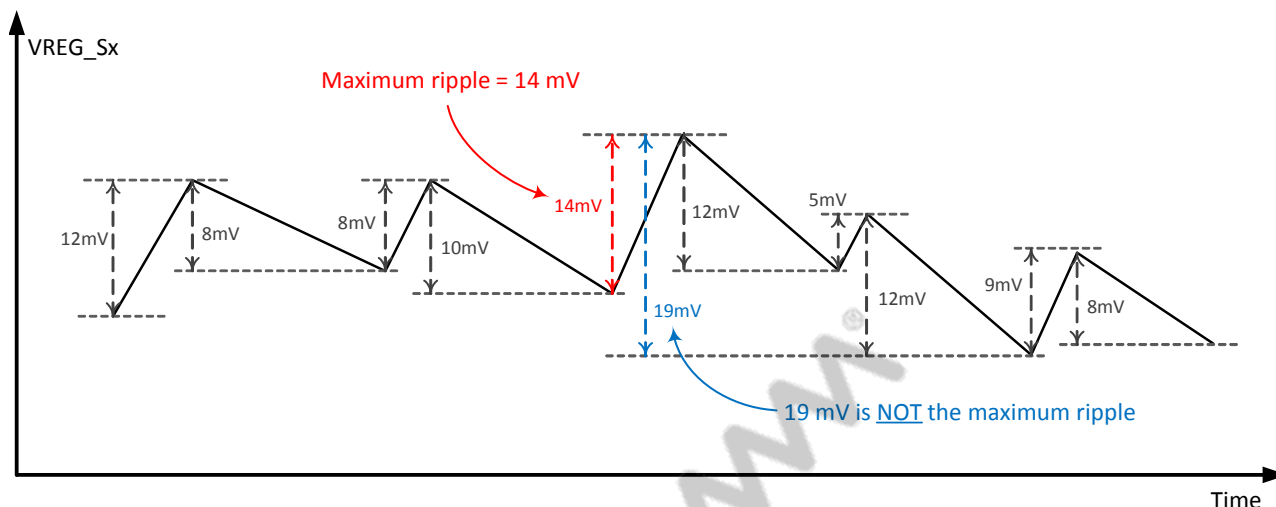

Figure 13 Maximum ripple measurement
- Ripple is measured as the largest ripple over a single switching cycle, not the difference between the overall minimum and maximum values of the buck output voltage (Figure 13).